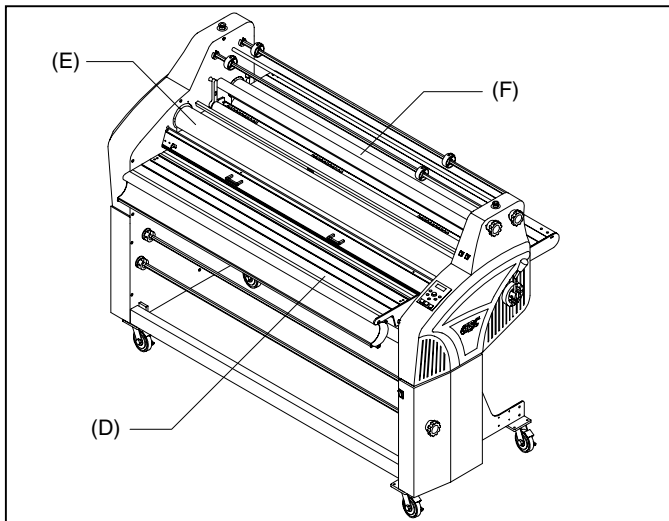

Fig. 15
D. FEED TABLE: (Figure 15) The Feed Table is used to position items for lamination. **The laminator will operate only when the Feed Table and Feed Table Latch are properly installed.**
E. HEAT ROLLERS: (Figure 15) Silicone rubber coated steel tubes heat the laminating film and compress the heated film to the items being laminated. Heat is provided by an internal heating element. The heat rollers are motor driven for ease of loading new film.
F. PULL ROLLERS: (Figure 15) The pull rollers, located at the back of the laminator, are motor driven. They simultaneously pull the film and improve the quality of the laminated item.